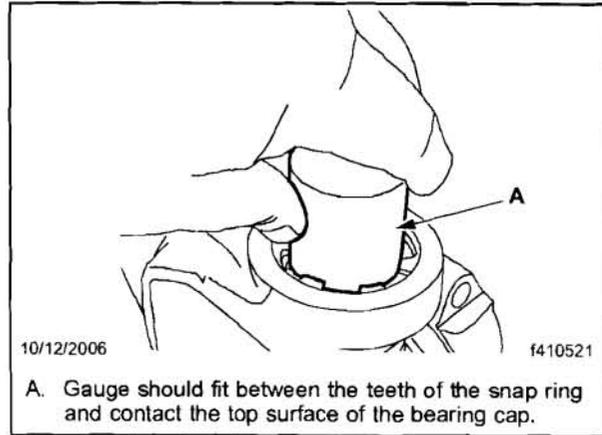

Fig. 2, Checking the Snap Ring Seating
5. Using the gage from the kit, check that all snap rings at both ends of the interaxle driveshaft are correctly seated in the yoke ears. The gage should fit between the teeth of the snap ring, and contact the top surface of the U-joint bearing. See **Fig. 2**.